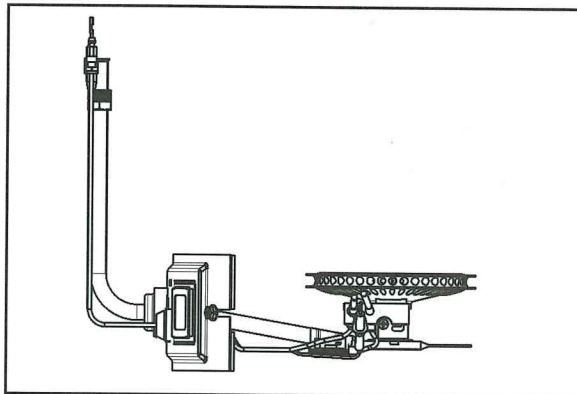
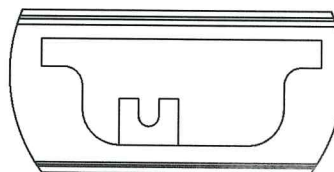

Figure 1. BURNER ASSEMBLY
Figure 2. BURNER SUPPORT
2. **Installation:** Wrap the filter around the base of the water heater. Cut to fit around a sensor if present. Trim excess filter material with scissors but allow filter material to overlap a few inches (see Figure 2).
3. The filter should fit snugly against base of water heater with no gaps. The filter must fit flush against the bottom of the drain pan *and/or* floor. Hold the filter in place, stretch the filter clip over the overlapped joint and hook in place (see Figure 2).
7. Grasp burner tube and remove burner assembly through inner door opening, see Figure 1.
1. Insert new burner assembly through the door opening being careful not to damage the door gasket on the studs, see Figure 1. The burner tube must rest in the support bracket inside the combustion chamber, see Figure 2. Be sure the igniter wire and pilot tubing do not bow up where the flame may damage them. The inner door should fit with the studs extending through the slots in the door. Check to see if the door gasket extends uniformly around the door, see Figure 3. This will ensure that the gasket is not folded and properly seals the combustion chamber.